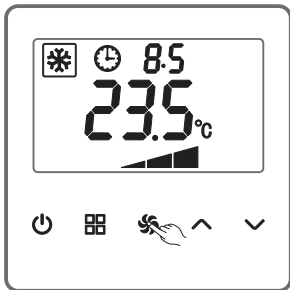

Figure 4
(1) The unit is timed to start or stop, ranging from 0.5 to 24 hours.
(2) As shown in the Figure 4, after starting the unit, to keep pressing